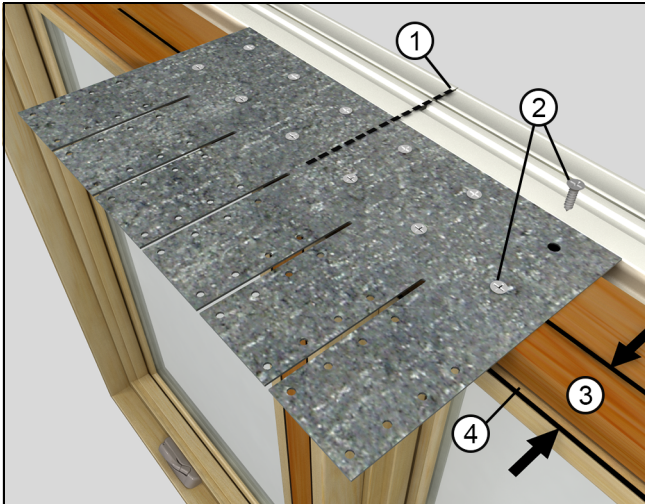

Figure 14
1. Center mull brackets on top of filler board at mullion joints with the interior most screw hole no more than 1 1/8" (29) from the interior edge of the frame. Attach the mull bracket with the #7x5/8" screws provided. See Figure 14.